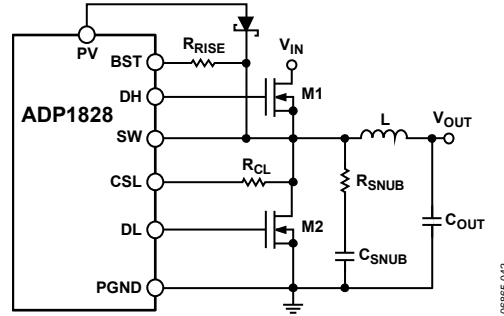

Figure 40. Application Circuit with a Snubber
In any high speed step-down regulator, high frequency noise (generally in the range of 50 MHz to 100 MHz) and voltage overshoot are always present at the gate, the switch node (SW), and the drains of the external MOSFETs. The high frequency noise and overshoot are caused by the parasitic capacitance, C_{gd} , of the external MOSFET and the parasitic inductance of the gate trace and the packages of the MOSFETs. When the high current is switched, electromagnetic interference (EMI) is generated, which can affect the operation of the surrounding circuits. To reduce voltage ringing at the drain of the MOSFET, an RC snubber can be added between SW and PGND, as illustrated in Figure 40. In most applications, R_{SNUB} is about 2 Ω , and C_{SNUB} about 1.2 nF. R_{SNUB} and C_{SNUB} can be calculated using the following equations:
In most applications, a size 0805 component is sufficient. The use of the RC snubber reduces the overall efficiency, generally by an amount in the range of 0.1% to 0.5%. However, the RC snubber cannot reduce the voltage overshoot. A resistor, shown as R_{RISE} in Figure 40, at the BST pin could help to reduce overshoot and is generally between 1 Ω and 5 Ω .